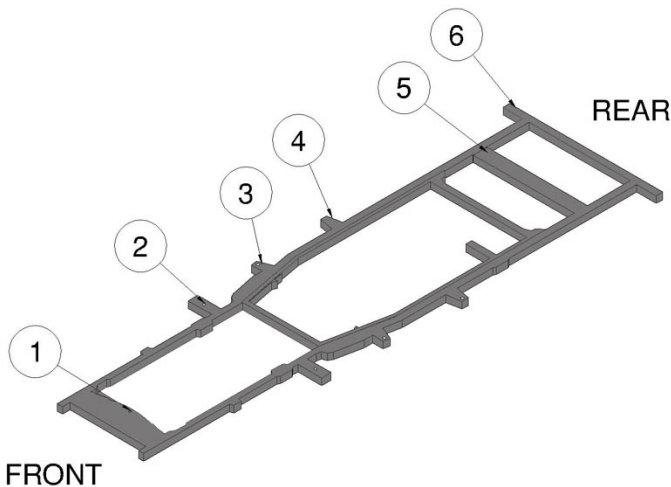

FIGURE 1
2. Loosen body mount bolts on one side of vehicle and remove bolts from opposite side for positions 1,5 and 6 (ref. Fig.1) and positions 2, 3 and 4. Use a long extension to remove mounts next to gas tank. Place 2x4 between jack and body to spread out load and jack up body on the side you have removed the bolts from just far enough to remove mounts. The bolts on the opposite side will help ensure that the body does not shift. **CAUTION:** Open Hood while jacking up the body to make sure that the fan doesn't hit the shroud. Also, watch that hoses and wires are not stretched. When lifting the side of the vehicle that the fuel filler is on keep a close eye not to stretch, tear or pull too far on the hose connection.